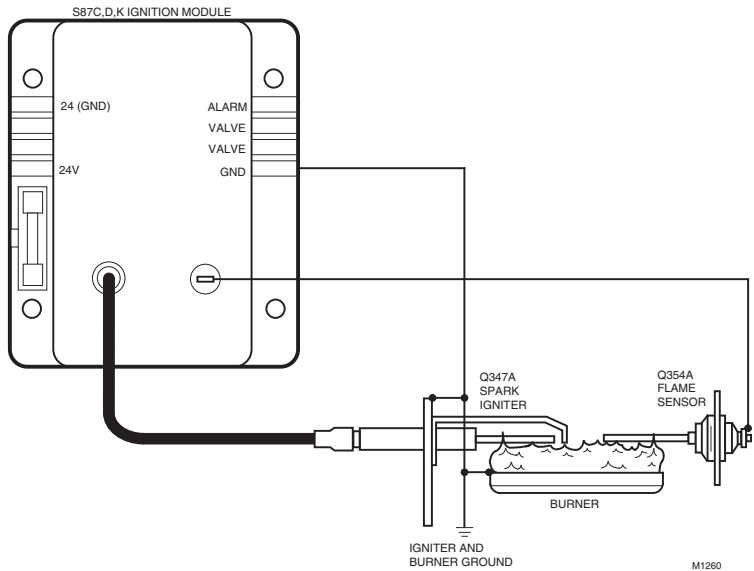

Fig. 2. Q354A, Q347A, and S87C,D,K DSI wiring connections.
2. Follow circuit diagrams provided by the appliance manufacturer. If not available, refer to Fig. 2, 3, or 4.